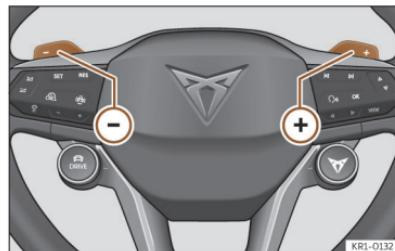

Fig. 110 Multi-function steering wheel: energy recuperation levers.
- Pressing the steering wheel levers + or – temporarily activates the manual selection of the energy recuperation level. >>> **Fig. 110** Automatic recuperation is reactivated by pressing the accelerator pedal again.
- Select the energy recuperation level with the steering wheel levers + or – >>> **Fig. 110**.